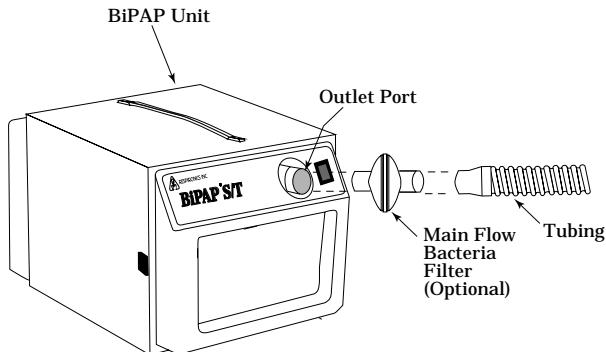

Figure 16
1. See Figure 16. Connect one end of the patient tubing to the outlet port on the front of the BiPAP unit. In situations where risk of contamination between the user and the BiPAP unit is high, a low resistance, main flow bacteria filter should be placed in-line between the unit and the patient.